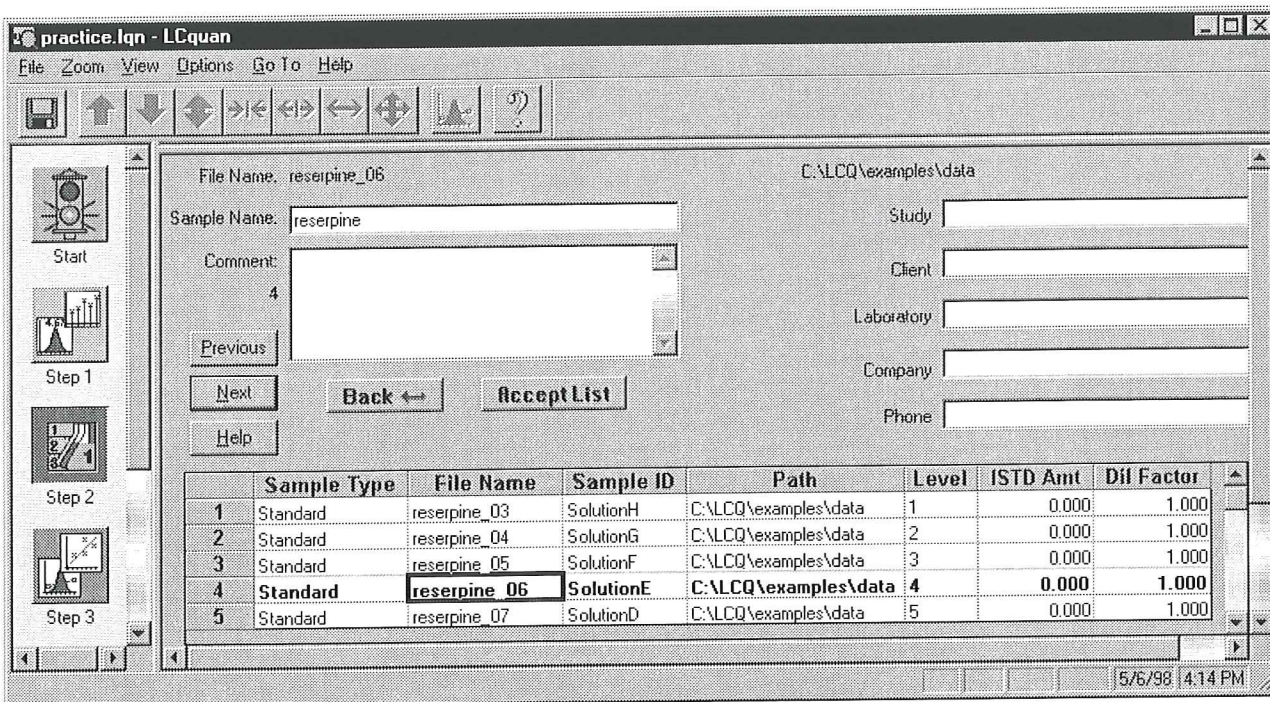

Figure 8-15. Create Sample List - Review and Edit view, showing associated calibration standard levels and raw files
6. Repeat the instructions in step 5 above for each row in the Create Sample List view. See Figure 8-15.